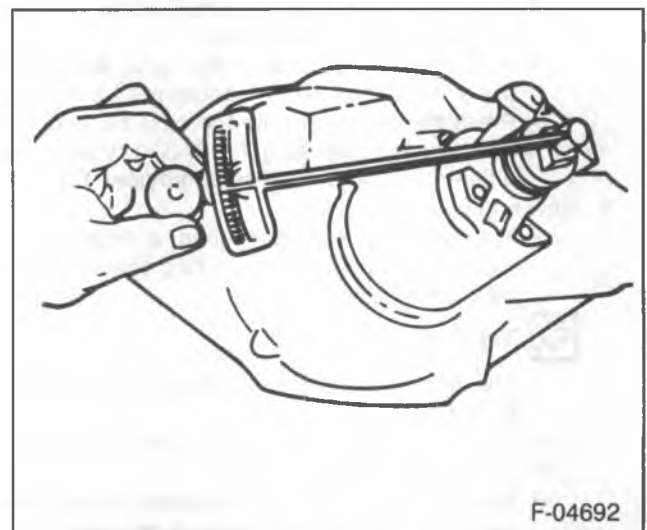

Figure 17—Checking Pinion Bearing Preload
- Remove J 8614-01. Using an inch-pound torque wrench, check the pinion preload by rotating the pinion with the wrench. Preload should be at or below 2.3 to 2.8 N·m (20 to 25 in. lbs.) on new bearings, or 1.1 to 1.7 N·m (10 to 15 in. lbs.) for used bearings (figure 17).